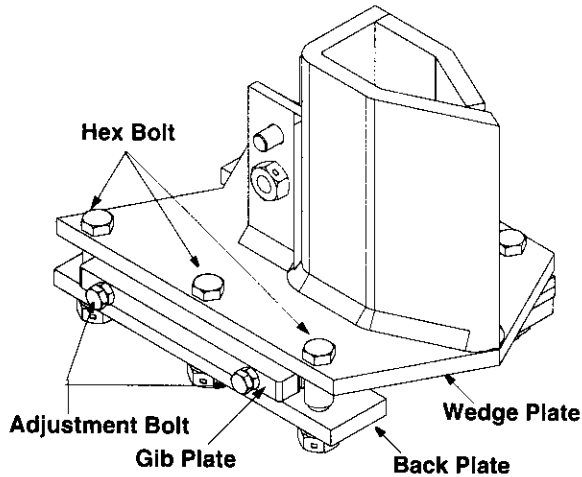

Figure 12
- The wedge plate on the log splitter is designed so the gib blocks on the side of the wedge plate can be easily removed and rotated or turned over for even wear. You can locate these two gib blocks behind the gib plate shown in the figure below. Make certain to readjust the adjustment bolts so wedge moves freely, but no excess space exists between the wedge plate and beam. See Figure 12.